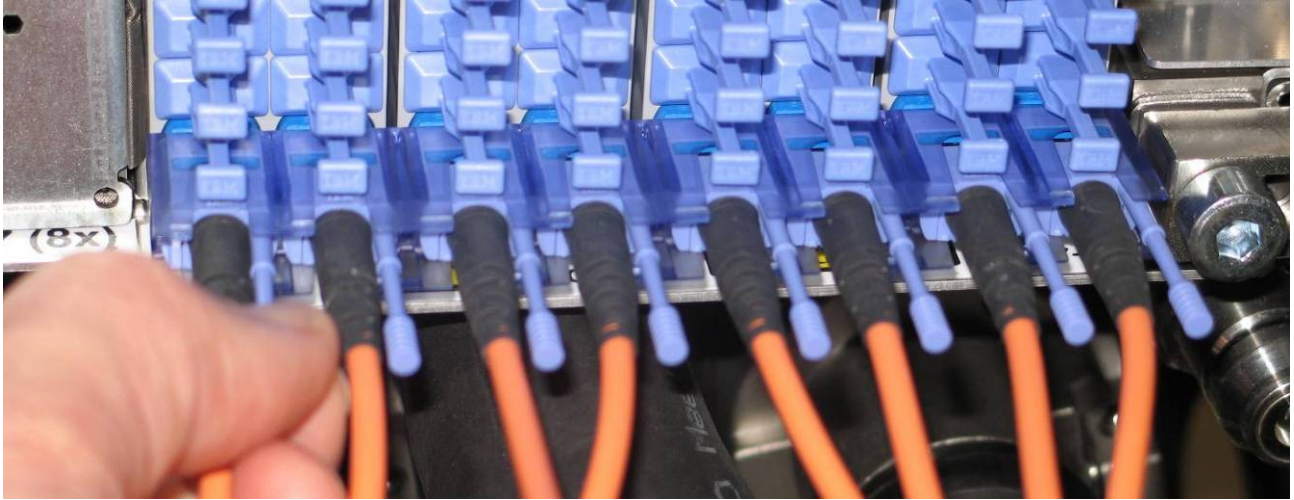

Figure 33 D-Link Grouper Installation
STEP 53 Re-install the D-Links and cable support brackets starting from the bottom most position, refer to Figure 33